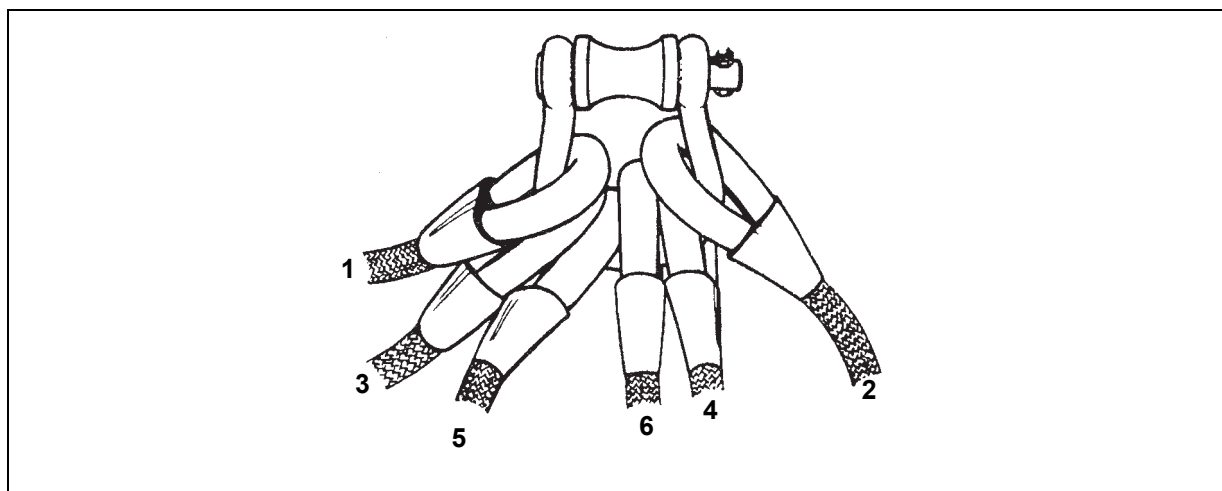

Figure 6-5. Sling Leg Numbering System
- Four nylon rope legs are usually attached to the apex fitting. Six rope legs can be attached to one apex fitting if the load requires it. In order to keep the sling legs from becoming tangled, sling legs are numbered in the following sequence: 1 and 2 are the outer sling legs, 3 and 4 are the inner sling legs, and if necessary, 5 and 6 are the innermost sling legs (figure 6-5). Odd-numbered sling legs are connected to the left side of the load; therefore, they are on the left side of the apex. If a load is rigged with only one sling leg, you can attach the top eyelet of the sling leg directly on the cargo hook, eliminating the need for the apex fitting.